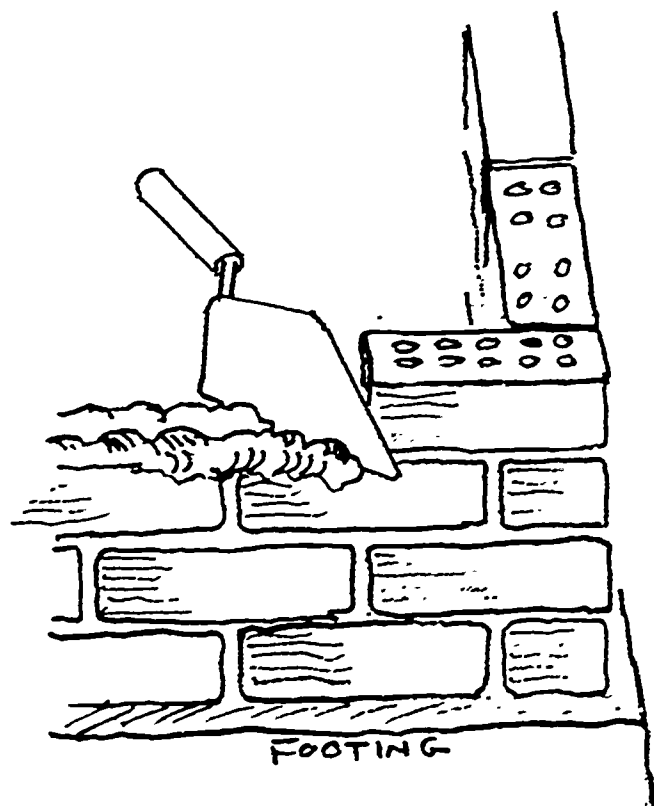

FIG. 510
5. Press bricks into place allowing the mortar to ooze out at the edges. See figure 510.